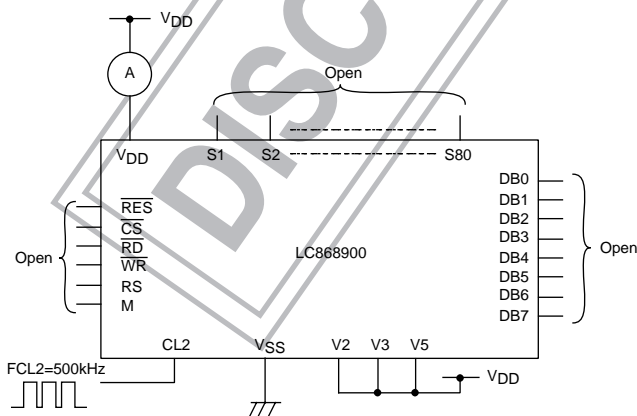

Figure1. Current dissipation measuring circuit at operation
•FCL2=500kHz •Figure 1	2.5 to 4.5